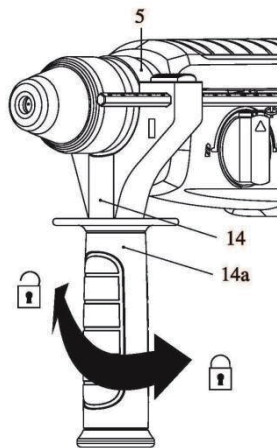

Fig. 6
- > Adjust the auxiliary handle (14) to the desired working position so that you can hold the product safely during operation.
- > Turn the hand grip (14a) clockwise to tighten the clamp (Fig. 6).